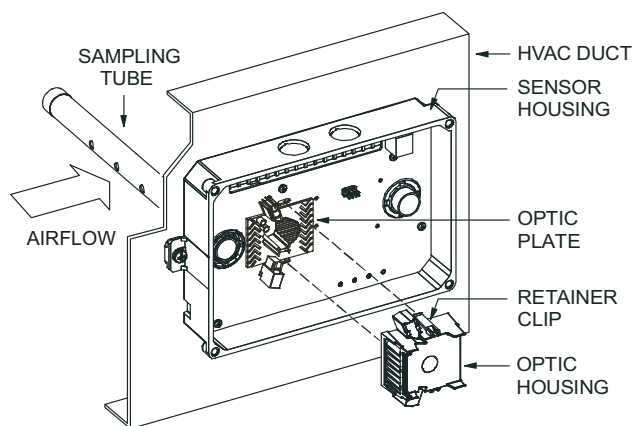

Fig. 26 — Sensor Cleaning Diagram
1. Disconnect power from the duct detector then remove the sensor's cover. (See Fig. 26.)